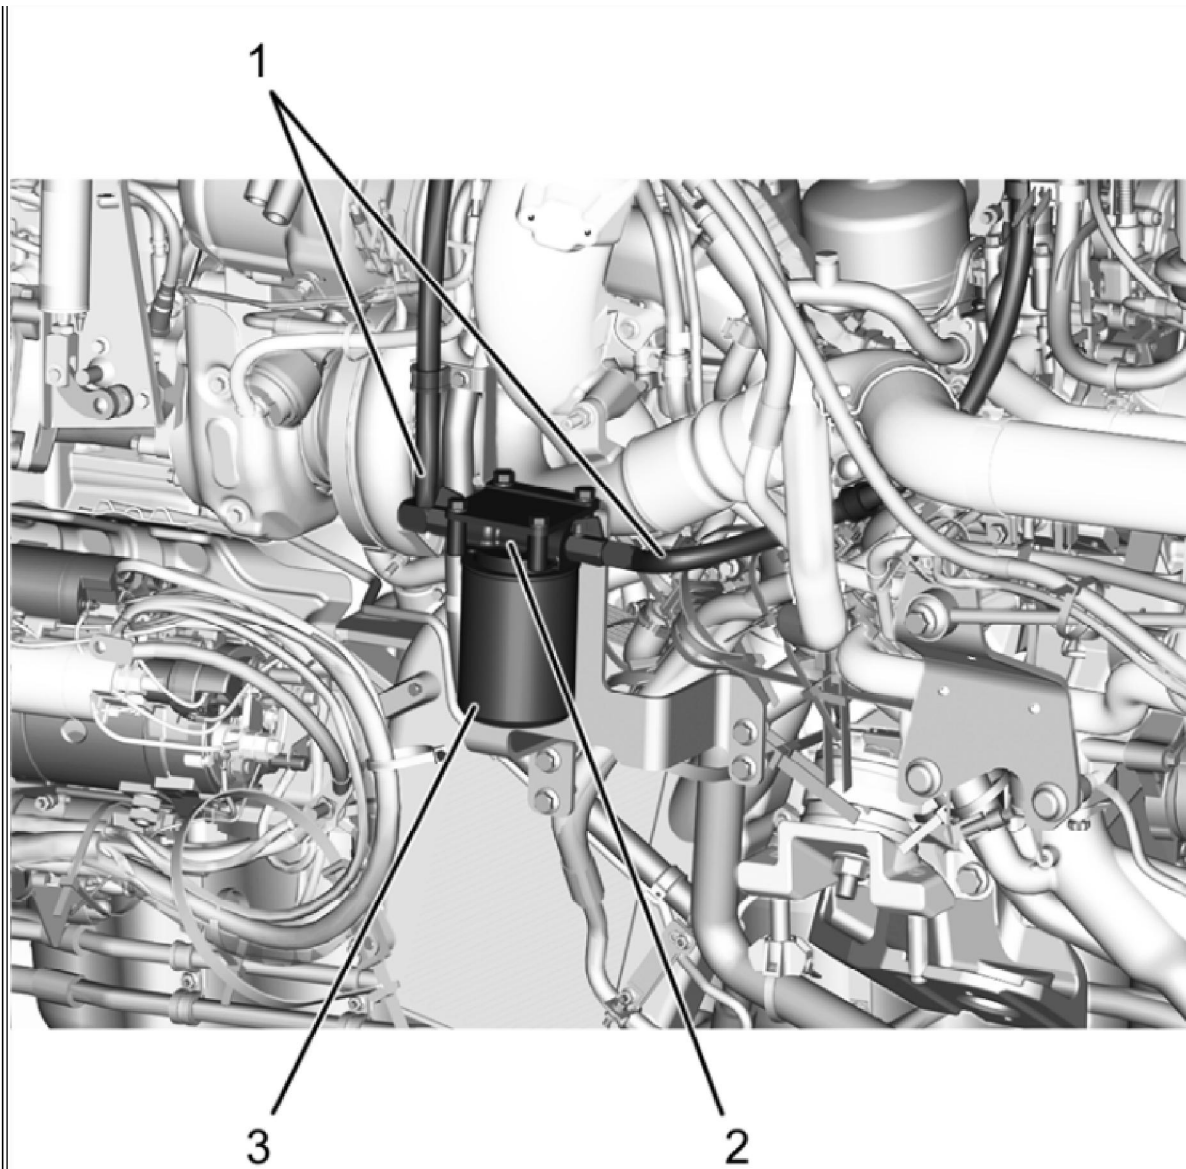

Figure 6: Coolant Filter Assembly
9. Remove and discard coolant filter (**Figure 6**, Item 3) from housing (**Figure 6**, Item 2) - Clean housing